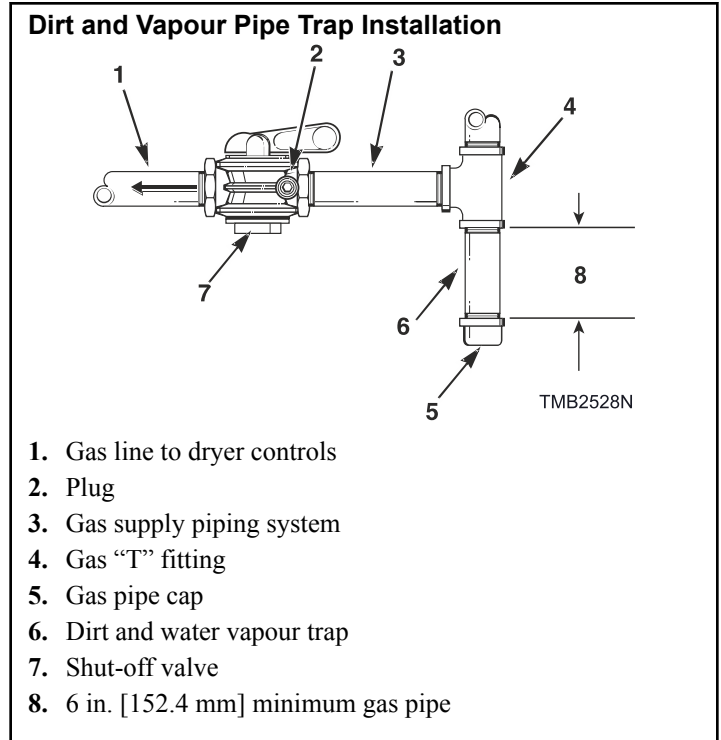

Figure 32
2. Install a dirt and water vapour pipe trap per each dryer gas supply. Refer to *Figure 32* .